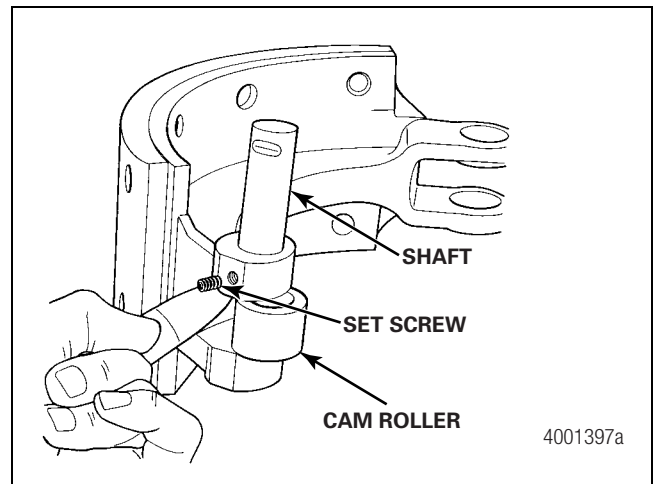

Figure 3.27
10. If necessary, remove the cam roller. Remove the set screw that secures the shaft to the shoe. Remove the roller and the shaft from the shoe. Figure 3.27.